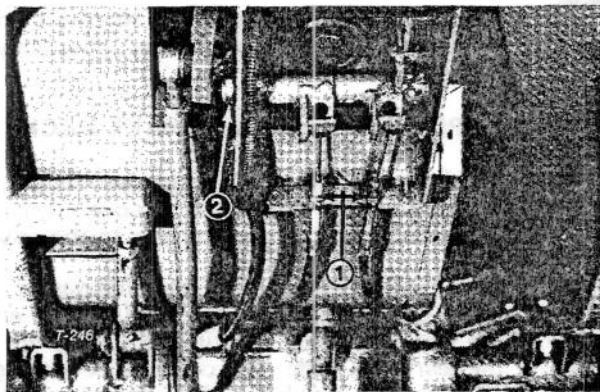

Figure 41
1. Loosen brake cable jam nuts and disengage brake cables from brake pedals (Fig. 41).
2. Remove locknut from brake pivot pin (Fig. 41). Slide pivot pin out to the side so pedal can be removed.